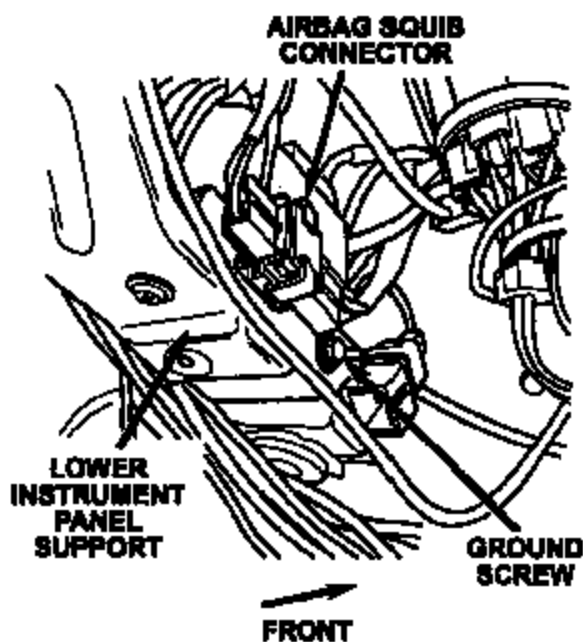

Figure 17
29. Disconnect the ground eyelet near the airbag squib connector (Figure 17).